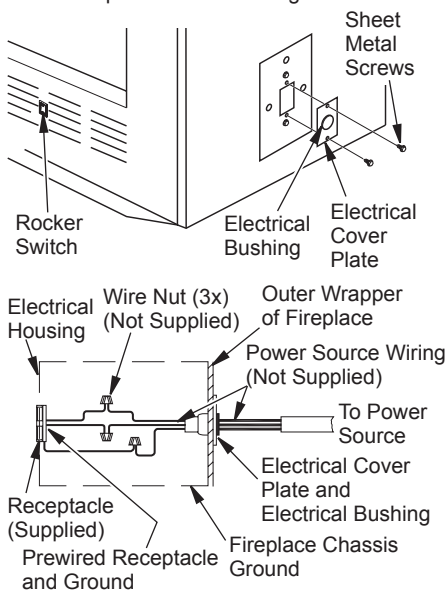

Figure 6 - Fan Switch-Electrical Bushing
Fan or blower kit is optional with this fireplace (circulating models only). Use of blowers or fans other than those manufactured by FMI PRODUCTS, LLC voids warranty. Fan is operated by pressing rocker switch (see Figure 6) in lower right hand corner of fireplace face. Blower is operated by turning control knob (not shown).
Fan/blower kit electrical connections are made through the electrical cover plate on side of fireplace as shown in Figure 6.
1. Remove electrical cover plate with bushing from fireplace by removing 2 sheet metal screws as shown in Figure 6.
3. Slide all wiring connections in electrical housing as shown in Figure 6.